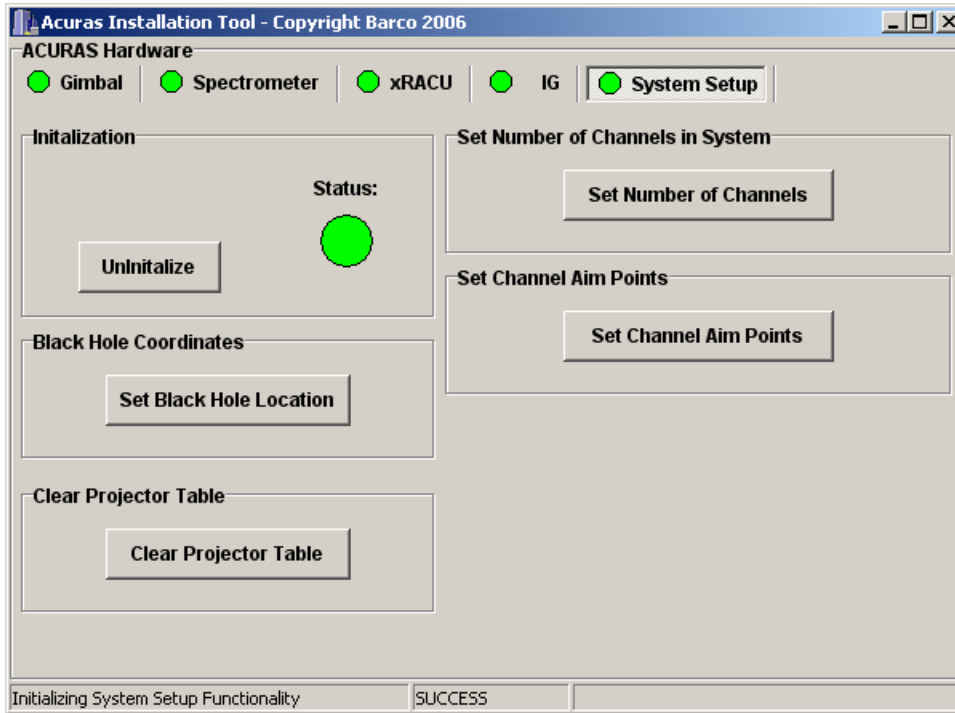

Figure 20. System Setup Tab – Initialized
Figure 20 shows the System Setup tab after it has been properly initialized.
- 1 Press the **Set Black Hole Location** button on the System Setup tab (refer to Figure 20).
- 1 Press the **Set Number of Channels** button on the System Setup tab (refer to Figure 20).
- 1 Press the **Set Channel Aim Points** button on the System Setup tab (refer to Figure 20).
- 1 Press the **Clear Projector Table** button on the System Setup tab (refer to Figure 20).